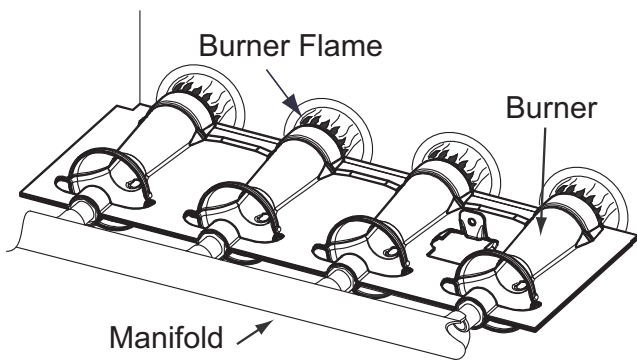

Fig. 66 - Burner Flame
8. Reverse items 6 through 1 for reassembly.
11. Check furnace operation through 2 complete heat operating cycles. Look at burners. Burner flames should be clear blue, almost transparent. See Fig. 66.